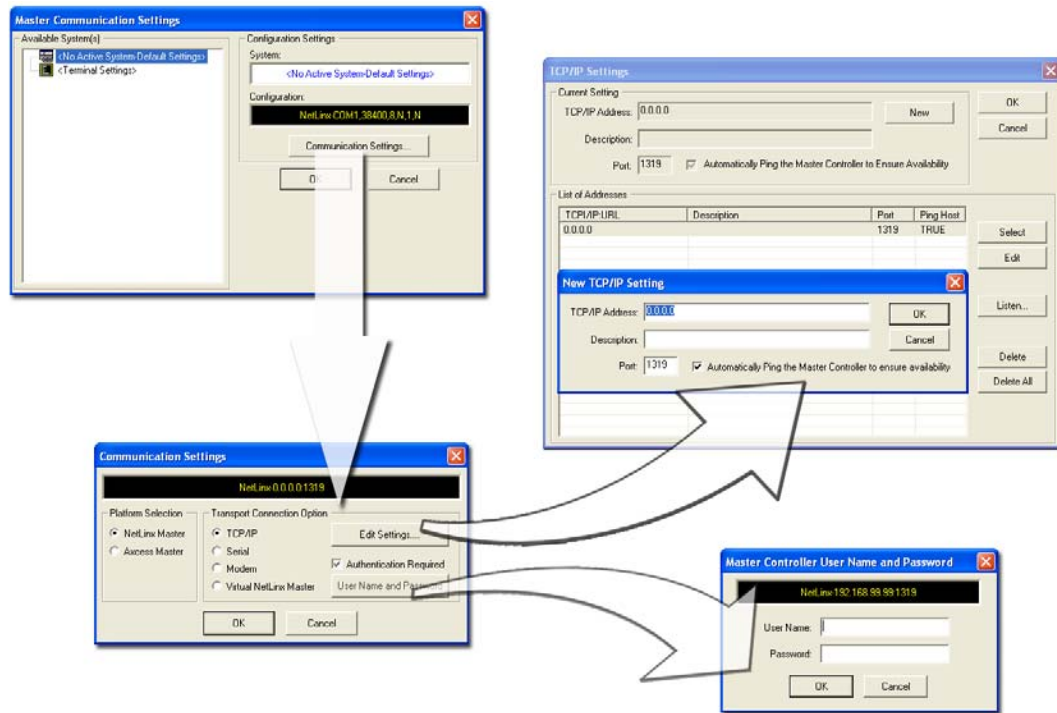

FIG. 75 Assigning Communication Settings and TCP/IP Settings
3. Select **Settings > Master Communication Settings** from the Main menu to open the Master Communication Settings dialog (FIG. 75).
7. Click the **Edit Settings** button (on the *Communications Settings* dialog) to open the TCP/IP Settings dialog (FIG. 75). This dialog contains a series of previously entered IP Address/URLs and their associated names, all of which are stored within Studio and are user-editable.